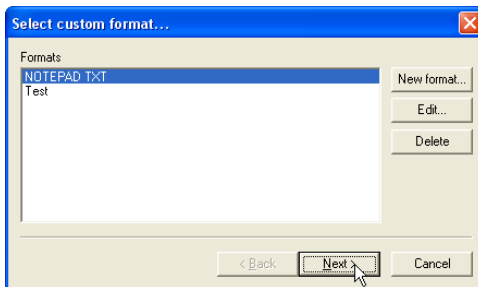

Figure 3-21. Select Custom Format
2. Select the format type and click **Next** (Figure 3-21). See “Creating Custom Import/Export Formats for Text Files” on page 2-13 for creating new or editing current formats (Figure 3-21).